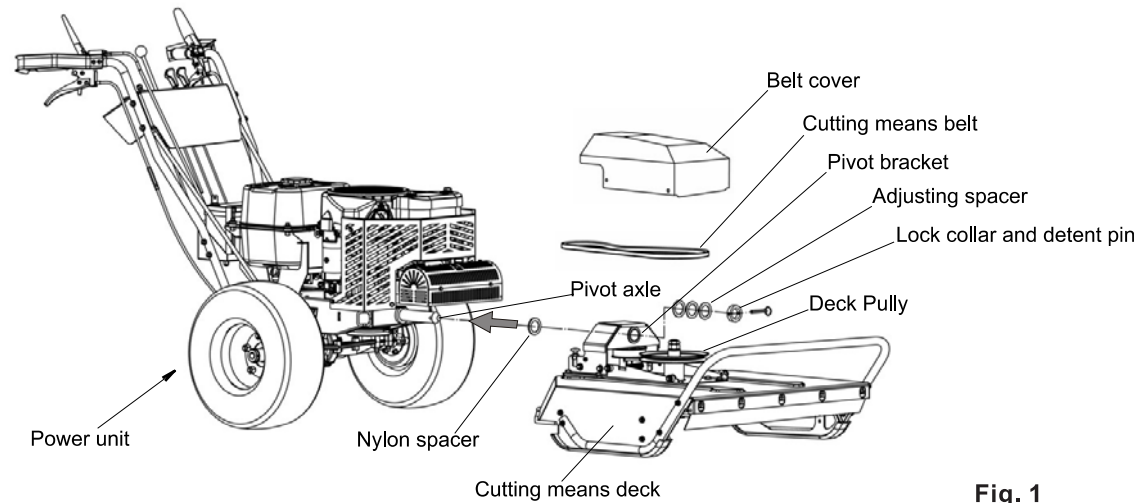

Fig. 1
1. Cut harness and remove Detent Pin and Collar from Power Unit (Figure 1).